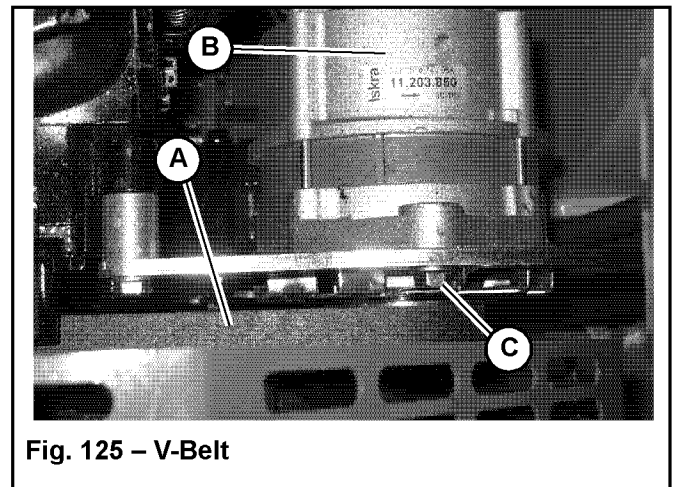

Fig. 125 – V-Belt
4. Inspect V-belt (A, Fig. 125) for damage. If damaged, have belts replaced by an authorized repair shop.